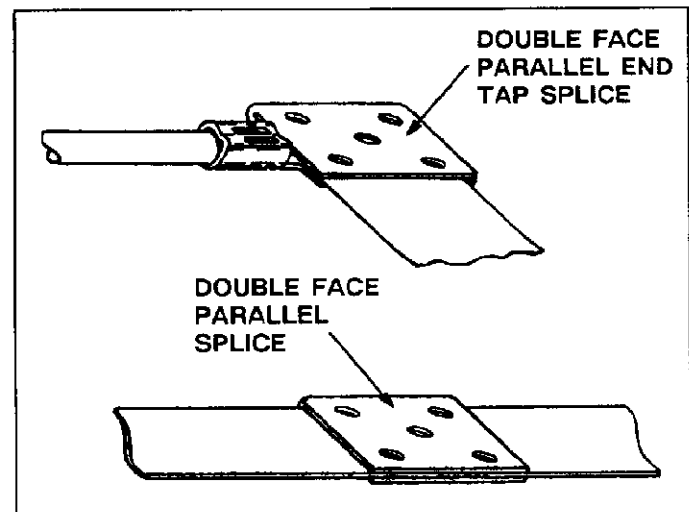

Fig. I-5
5. A crimped TERMI-FOIL splice should appear as shown in Figure I-5.